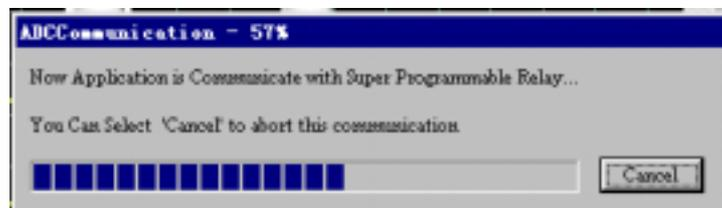

Fig 4.37 Update Program Process
- d. Click button “OK” with left button of mouse, start update programme, dialog box shown as fig 4.37 display update programme course.